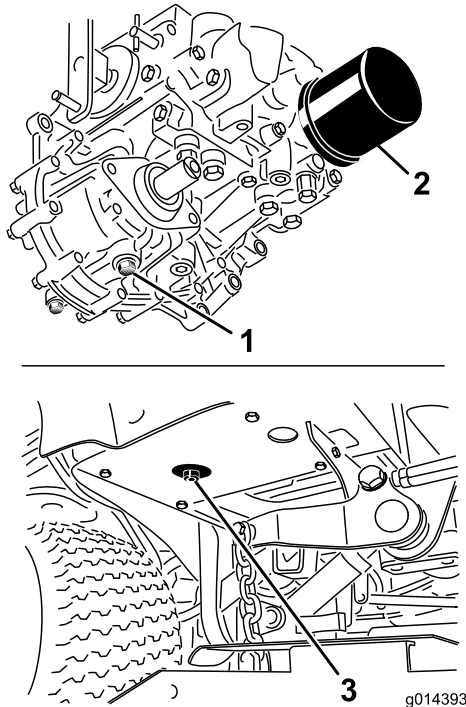

Figure 89
- Place a large pan under the hydraulic reservoir and transmission case and remove the plugs, draining all of the hydraulic fluid (Figure 89).
- Clean the area around the hydraulic-fluid filter and remove the filter (Figure 89).